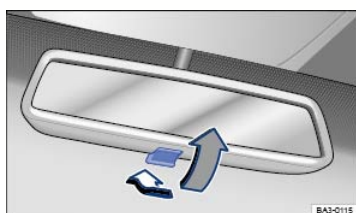

Fig. 90 Manually adjustable inside mirror.
- To adjust to non-glare visibility, move the lever so that it points backward ⇒ Fig. 90.